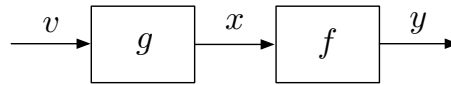

Figure 2.38: Composition of two functions.
8. If the composition $f \circ g$ is defined, i.e., the co-domain of g is contained in the domain of f , then the block diagram is as shown in Figure 2.38. Here v is the overall input and y the overall output of the system composed of f and g combined in the order shown. So far we haven't said what v, x, y represent. For example, they could be real numbers, in which case f and g are functions $\mathbb{R} \rightarrow \mathbb{R}$. Give examples of nonlinear f, g and find the system from v to y .